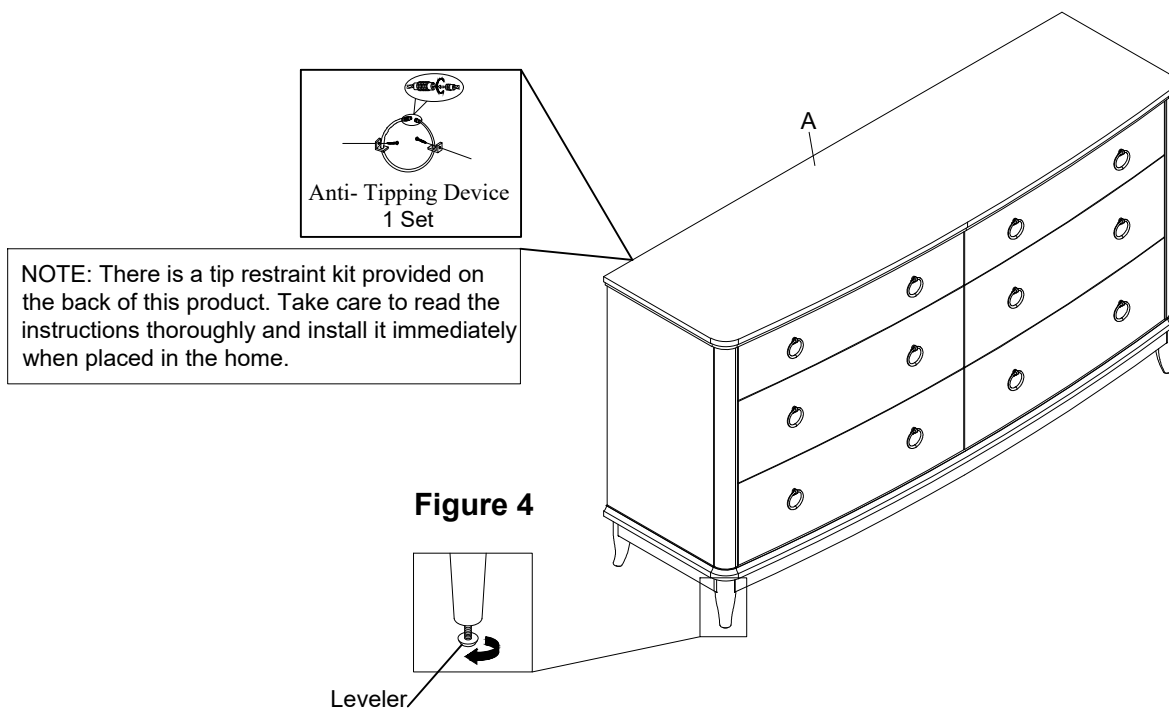

Figure 4
Connect the Slat Support (I) and Center Rail (G) to Roll Slats (H). (See Figure 4)
Adjust the levelers on the legs until the furniture is leveled. (See Figure 4)